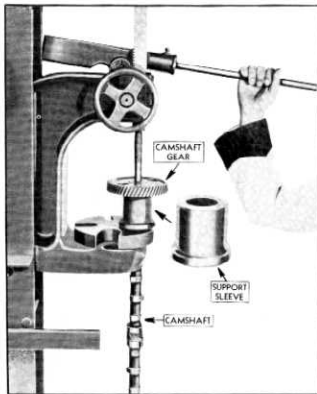

Fig. 56—Removing Camshaft Gear
- Place the camshaft through the gear remover, place end of remover on table of a press and press shaft out of gear (fig. 56).